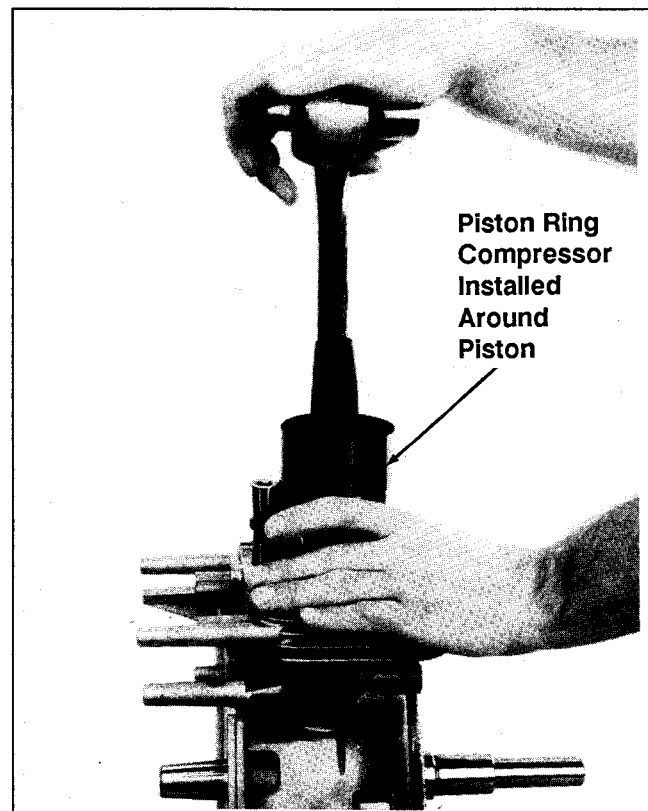

Figure 11-4. Installing Piston
2. Lubricate the cylinder bore, piston and rings with engine oil. Compress the piston rings using a piston ring compressor. See Figure 11-4.